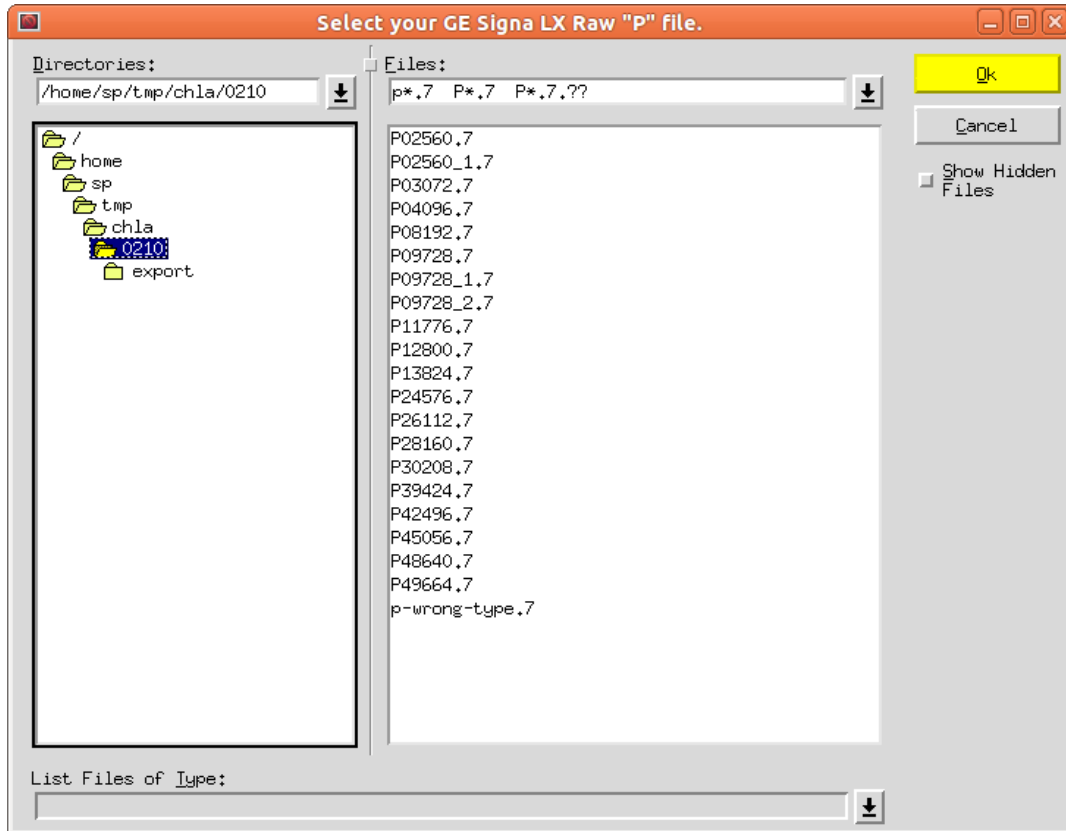
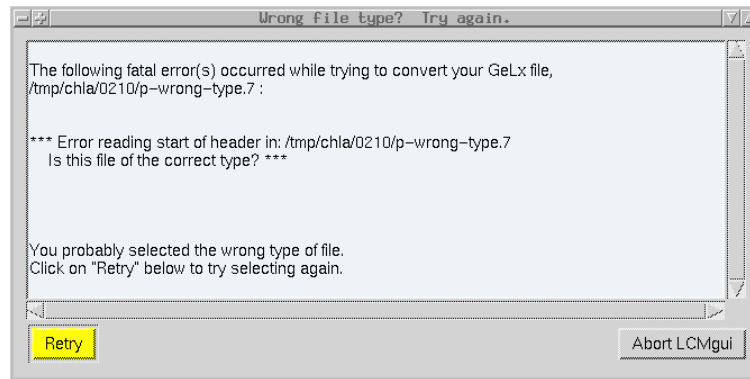
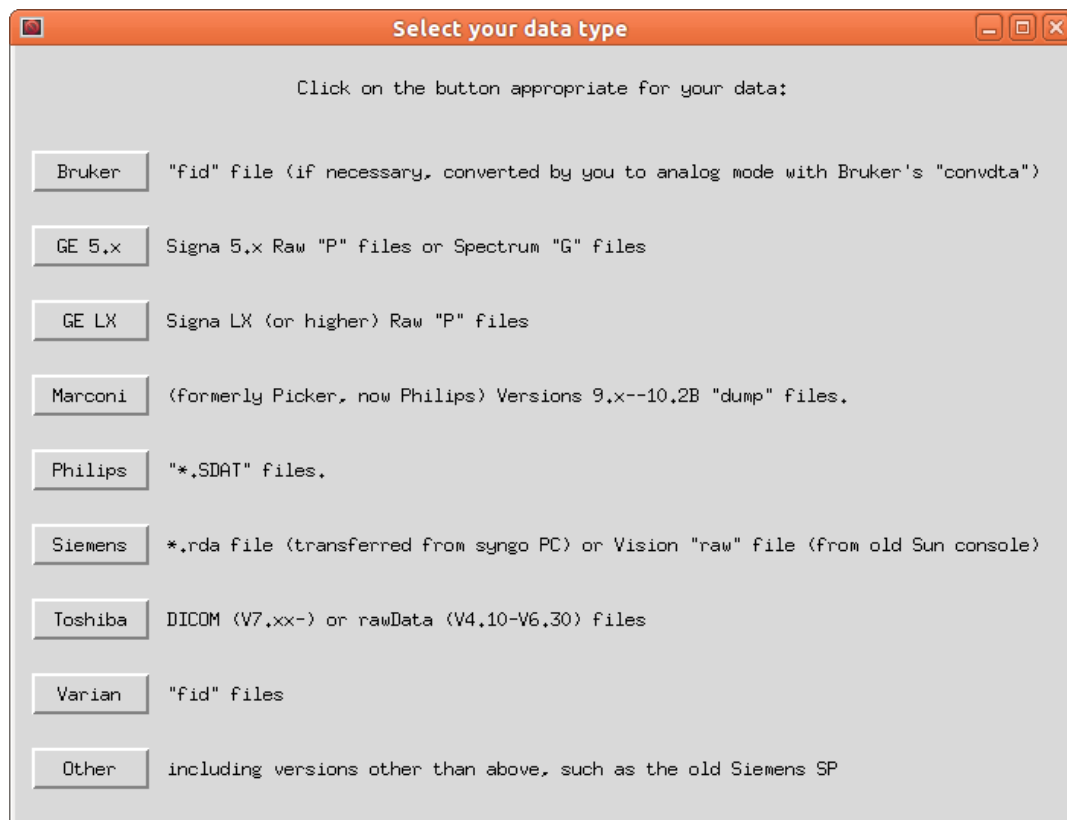
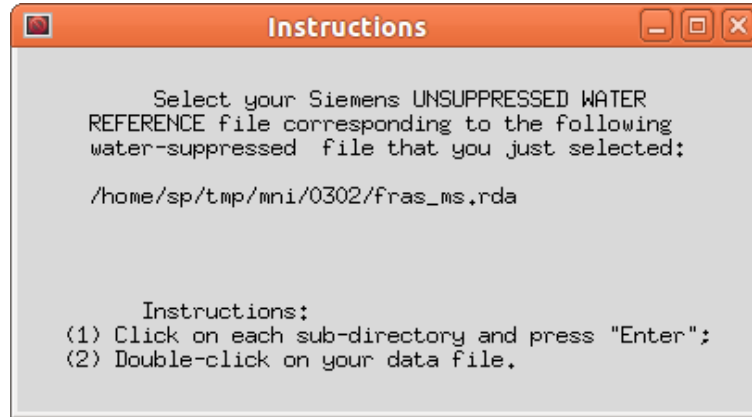

Figure 6.1: The File Selector, shown here for GE LX files
Figure 6.2: You selected a file of the wrong type in the File Selector
Figure 6.3: Note that GE Signa 5.x and LX (or higher) have distinct buttons.
Figure 6.5: The instructions-part of the File Selector for the unsuppressed water reference.
- Select the file containing the data to be analyzed (Fig. 6.1 in Sec. 6.2.1).
When LCMgui is started, the first window that appears is usually the *File Selector*. An example with GE Signa LX data is shown in Fig. 6.1. With data from other manufacturers, the title, “Select your GE Signa LX ...” will be different. LCMgui remembers the directory where the data file was in the last run, and the File Selector starts there.
If the last LCMgui session did not use Bruker, GE, Marconi/Picker, Philips, Siemens, Toshiba or Varian data, then the window in Fig. 6.3 will appear first. You normally then click the “Other” button in Fig. 6.3, as you did in the previous session.
You first navigate through the directory tree. When you click on a directory, its files are listed in the right pane (the stage shown in Fig. 6.1). You then click on the filename that you want to use and click the yellow “OK” button at the right (or simply double-click on the filename).
Only filenames that match the filter shown at the top of the pane of filenames (p*.7, P*.7 or P*.7.??) in Fig. 6.1) are displayed. If your filename differs from this standard (e.g., if you analyzed GE Signa 5.x data last time and LX data this time), then it will not be listed. You can change
If the filenames or directories in Fig. 6.1 are so long that they are cut off, then the width of the panes can be adjusted by holding the left mouse button down on the small square at the top on the pane boundary (between “**Directories:**” and “**Files:**”) and dragging the pane boundary. (You can also simply use the scroll bar that appears at the bottom of the pane when names are too long.)
LCMgui remembers what type of data was analyzed from this account and User Profile the last time, and it expects the same type this time. You therefore get a window like Fig. 6.2 if in the File Selector you:
- Select a completely irrelevant file (e.g., `p-wrong-type.7` in Fig. 6.1 to produce Fig. 6.2).
Otherwise, click the yellow “Retry” button in Fig. 6.2. A window like Fig. 6.3 appears. Here you click on the appropriate type of data. The File Selector then returns, giving you another chance to select your data file.
Select unsuppressed water reference file If the “Do eddy-current correction” button is active (blue), the File Selector window appears (unless you have Marconi/Picker files or GE Probe P-files, which already contain the water reference). It is exactly as in Fig. 6.1, except for the window of instructions at the upper left (Fig. 6.5). As you can see from Fig. 6.5, the filename of your currently selected water-suppressed data is shown, and you must select the corresponding unsuppressed data file.
- (1) **File Selector.** You select the file containing your (binary scanner) data to be analyzed with the window in Fig. 6.1.
- (2) **Data Conversion.** A program is executed to produce the LCModel `.RAW` file and any available Control Parameters (e.g., `NUNFIL`, `DELTAT`) from the file selected in Step (1). You can specify this program to be the standard LCMgui program for the standard Bruker, GE, Marconi/Picker, Philips, Siemens, Toshiba or Varian files (Sec. 3.7). However, there is also an “Other” button to use a script supplied by you for another type of file.
- (3) **Preprocessor.** Even if you specify one of the standard programs for Step (2), you can still supply your own script in this step to modify the `.RAW` file or Control Parameters from Step (2). (The original default, when LCMgui is installed, is to use no Preprocessor.)